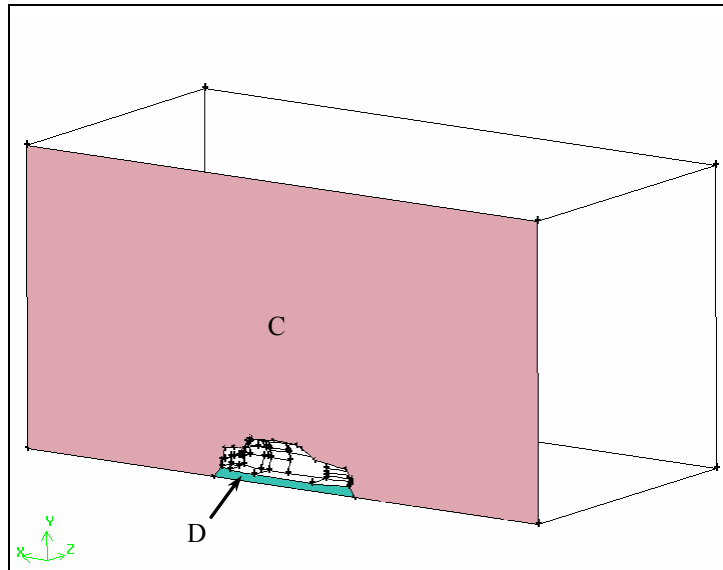

Figure 5-30: Two faces created on the symmetry plane of the brick
- iii. Select the two faces you created on the symmetry plane of the brick (the faces marked C and D in Figure 5-30) and click **Apply** to accept the selection.